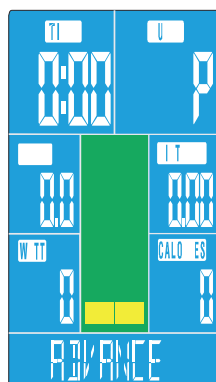
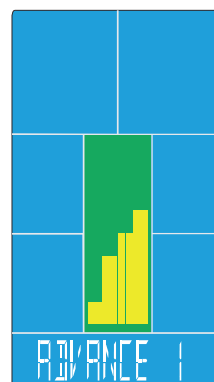

FIGURE 11
FIGURE 12
5. If select ADVANCE function (figure11), press MODE confirm to next step. Set ADVANCE 1~4 (figure12), press UP/DOWN to select ADVANCE 1, and press MODE to confirm entering this mode, you can press UP/DOWN button to adjust and set TIME or directly press START button to start workout. After START, press UP and DOWN buttons to adjust motor LOAD. When the graph is executed to the ninth STEP, it is shifted to the left by the scroll bar, and so on.